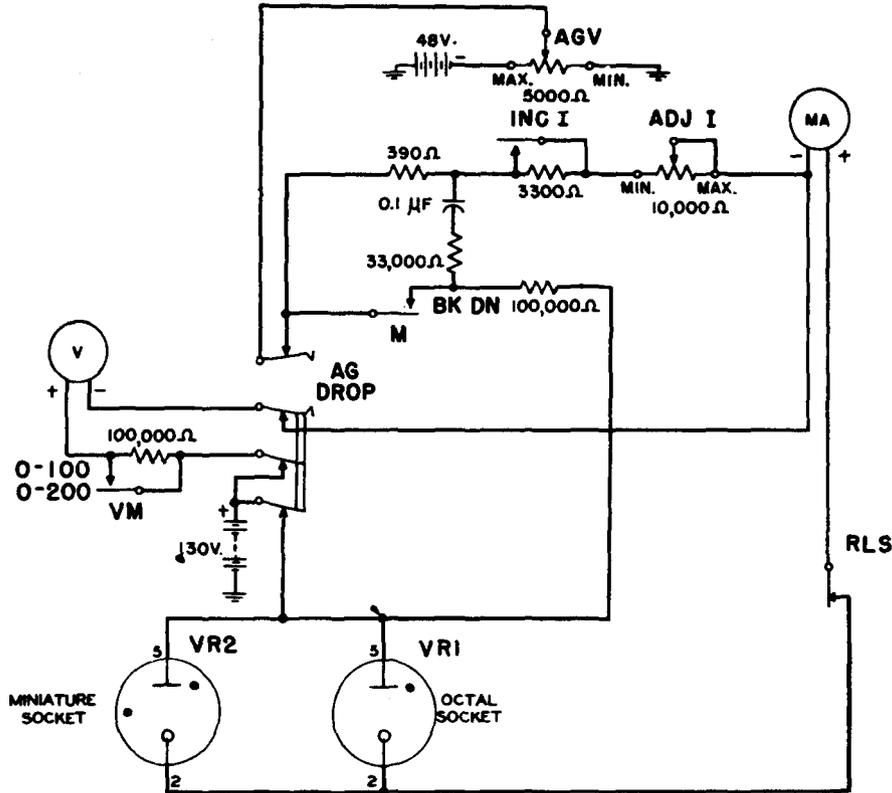

Fig. 8 - Voltage Drop All VR Tubes
4.22 The circuit arrangement for checking the voltage drop to determine the voltage regulating characteristics of two-element tubes is shown in Fig. 8.